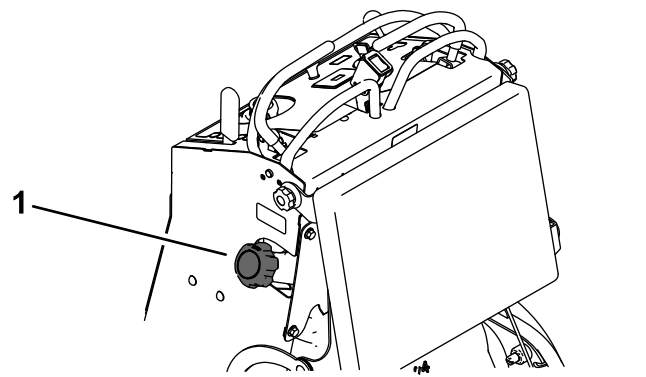

Figure 34
3. Clean around the fuel cap to prevent debris from getting into the fuel tank (Figure 34).
6. Using the syphon pump, drain the fuel into a clean fuel can (Figure 34).